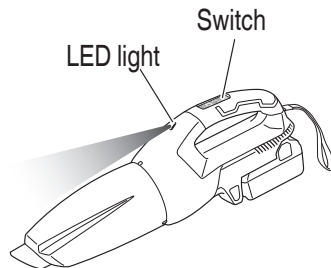

Fig. 19
4. Switch on the appliance (**Fig. 19**)